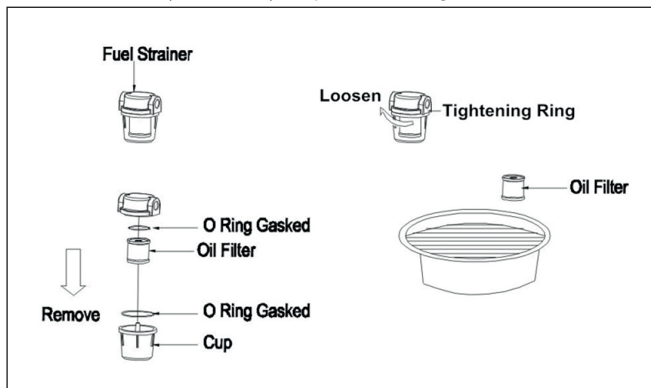

Fig. 1
2. **Filter:** The fuel filter should be cleaned at least twice per heating season by flushing it with clean diesel. Contaminated fuel could make this necessary immediately, see picture below: Fig 1
2. Fuel is contaminated	2. Set switch to „O (Off)“, empty fuel tank, clean and refill. Clean the filter with clean fuel, do not damage the filter. (see chapter Cleaning & Maintenance Fig 1)